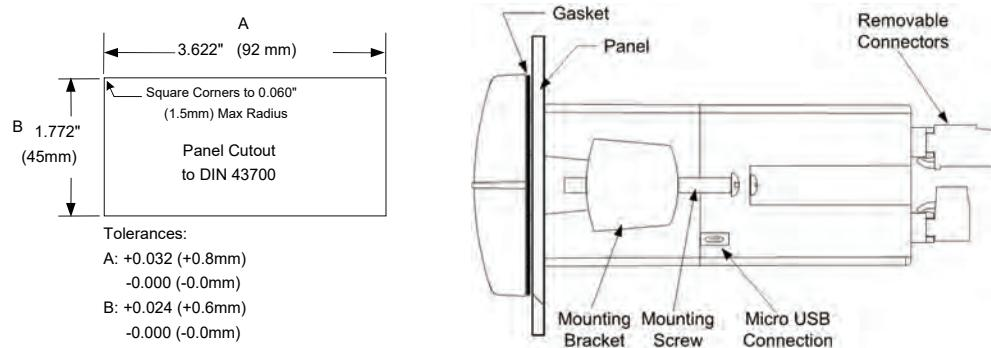

Figure 1: 1/8 DIN Panel Mounting
1. Prepare a standard 1/8 DIN panel cutout – 3.622" x 1.772" (92 mm x 45 mm). Refer to Figure 1 for more details.